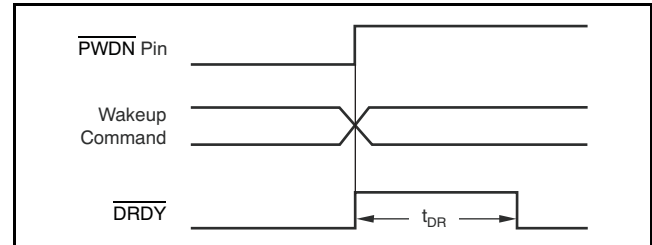

Figure 41. $\overline{\text{PWDN}}$ Pin and Wake-Up Command Timing
In power-down, note that the device outputs remain active and the device inputs must not float. When the Standby command is sent, the SPI port and the configuration registers are kept active. Figure 41 and Table 12 show the timing.
(1) See Figure 41 and Table 12 for time to new data.